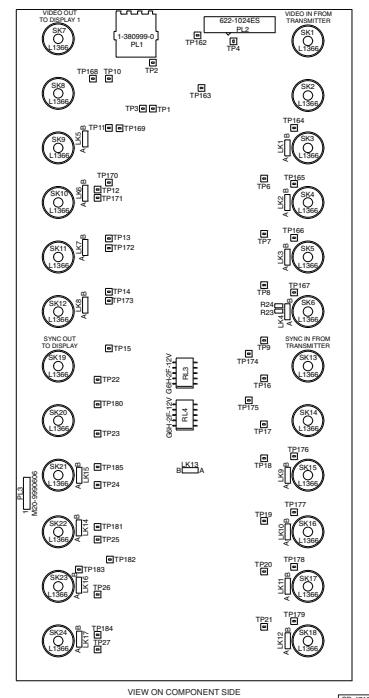

Figure 7e - Video Sync Switching PCB (NNR-A979): Link Positions
- 39 The link positions for the Video Sync Switching PCB are as shown in Figure 7e.